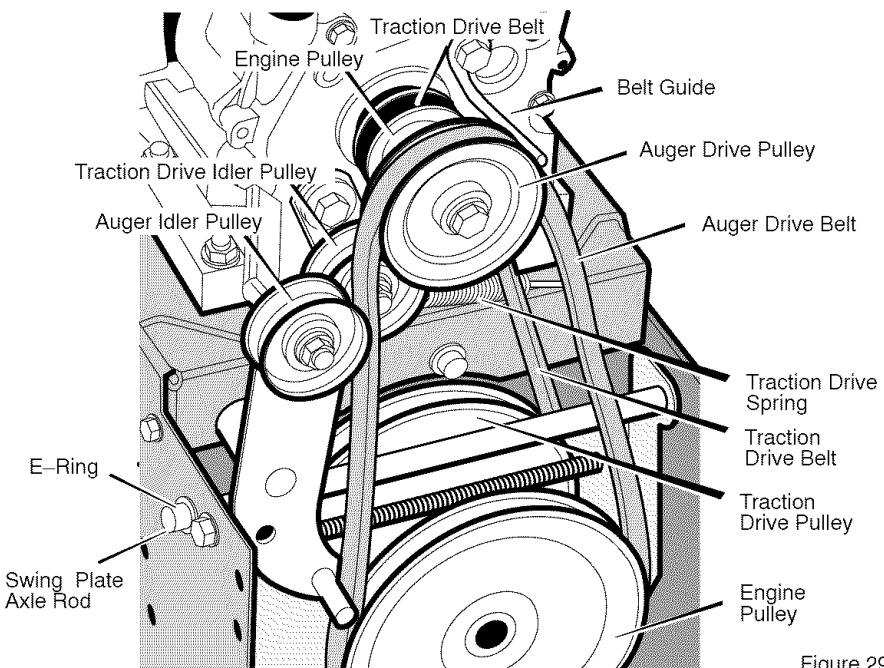

Figure 29
3. Loosen nut on auger idler pulley and move auger idler pulley towards belt about  $1/8$  inch (3 mm) (see Figure 29).
5. Loosen the **belt guide**. Pull the **belt guide** away from the **auger drive pulley** (see Figure 29).
9. Remove the old **auger drive belt** from the **auger drive pulley**. Replace the **auger drive belt** with an original factory replacement belt available from an authorized service center (see Figure 29).
3. Remove the **e-ring** from one end of the **swing plate axle rod**. Remove the **swing plate axle rod** to allow the swing plate to pivot forward (see Figure 29).